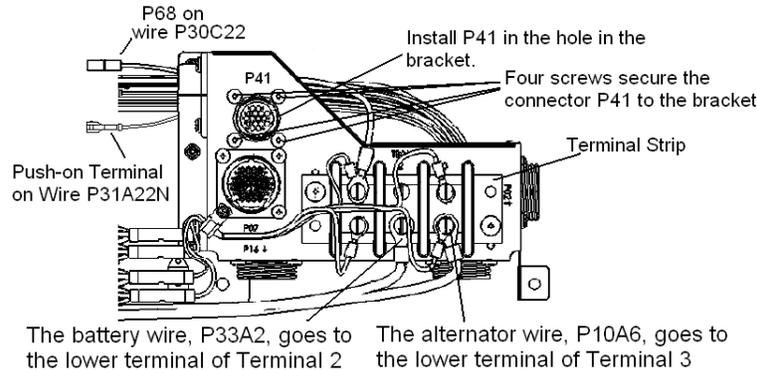

Figure 53-21 Starboard Side of the Power Distribution Harness Showing the Location of the Battery and Alternator Wires and Connector P41
19. Connect the battery wire, P33A2, to the lower terminal of Terminal 2 on the terminal strip. See Figure 53-21 for the location of the battery wire.